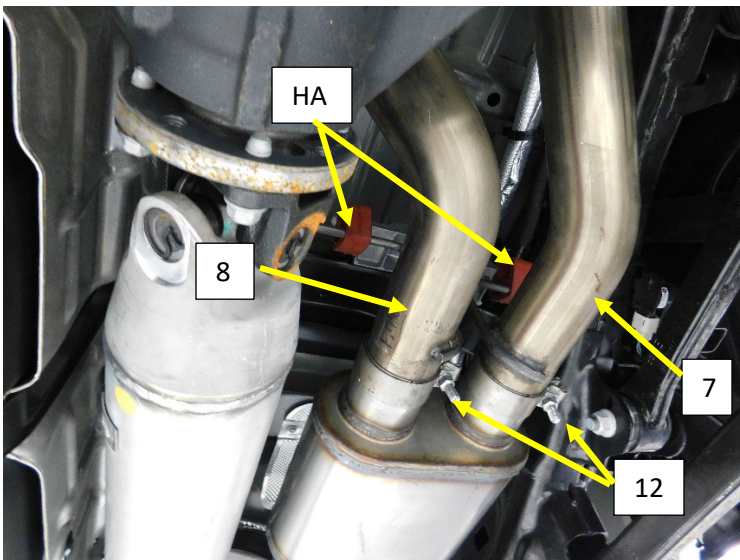

Figure.11
12. Install a 3" band clamp (12) on to each of the Muffler outlet neck. **Fig.11**
13. Install the OEM muffler hanger assembly (HA) on to the crossmember at the rear of the muffler using the original 13mm nuts removed previously. **Fig.11**
15. Install the tail pipe into the muffler and install the hanger rod (HA) through the isolator. **Fig.11**
17. Install the Left-over axel pipe (8) with the hanger rod (HA) toward the muffler, feed the pipe over the differential and toward the rear of the truck. **Fig.11**
18. Install the hanger rod into the rubber isolator (HA), tighten the clamp to allow for adjustment. **Fig.11**